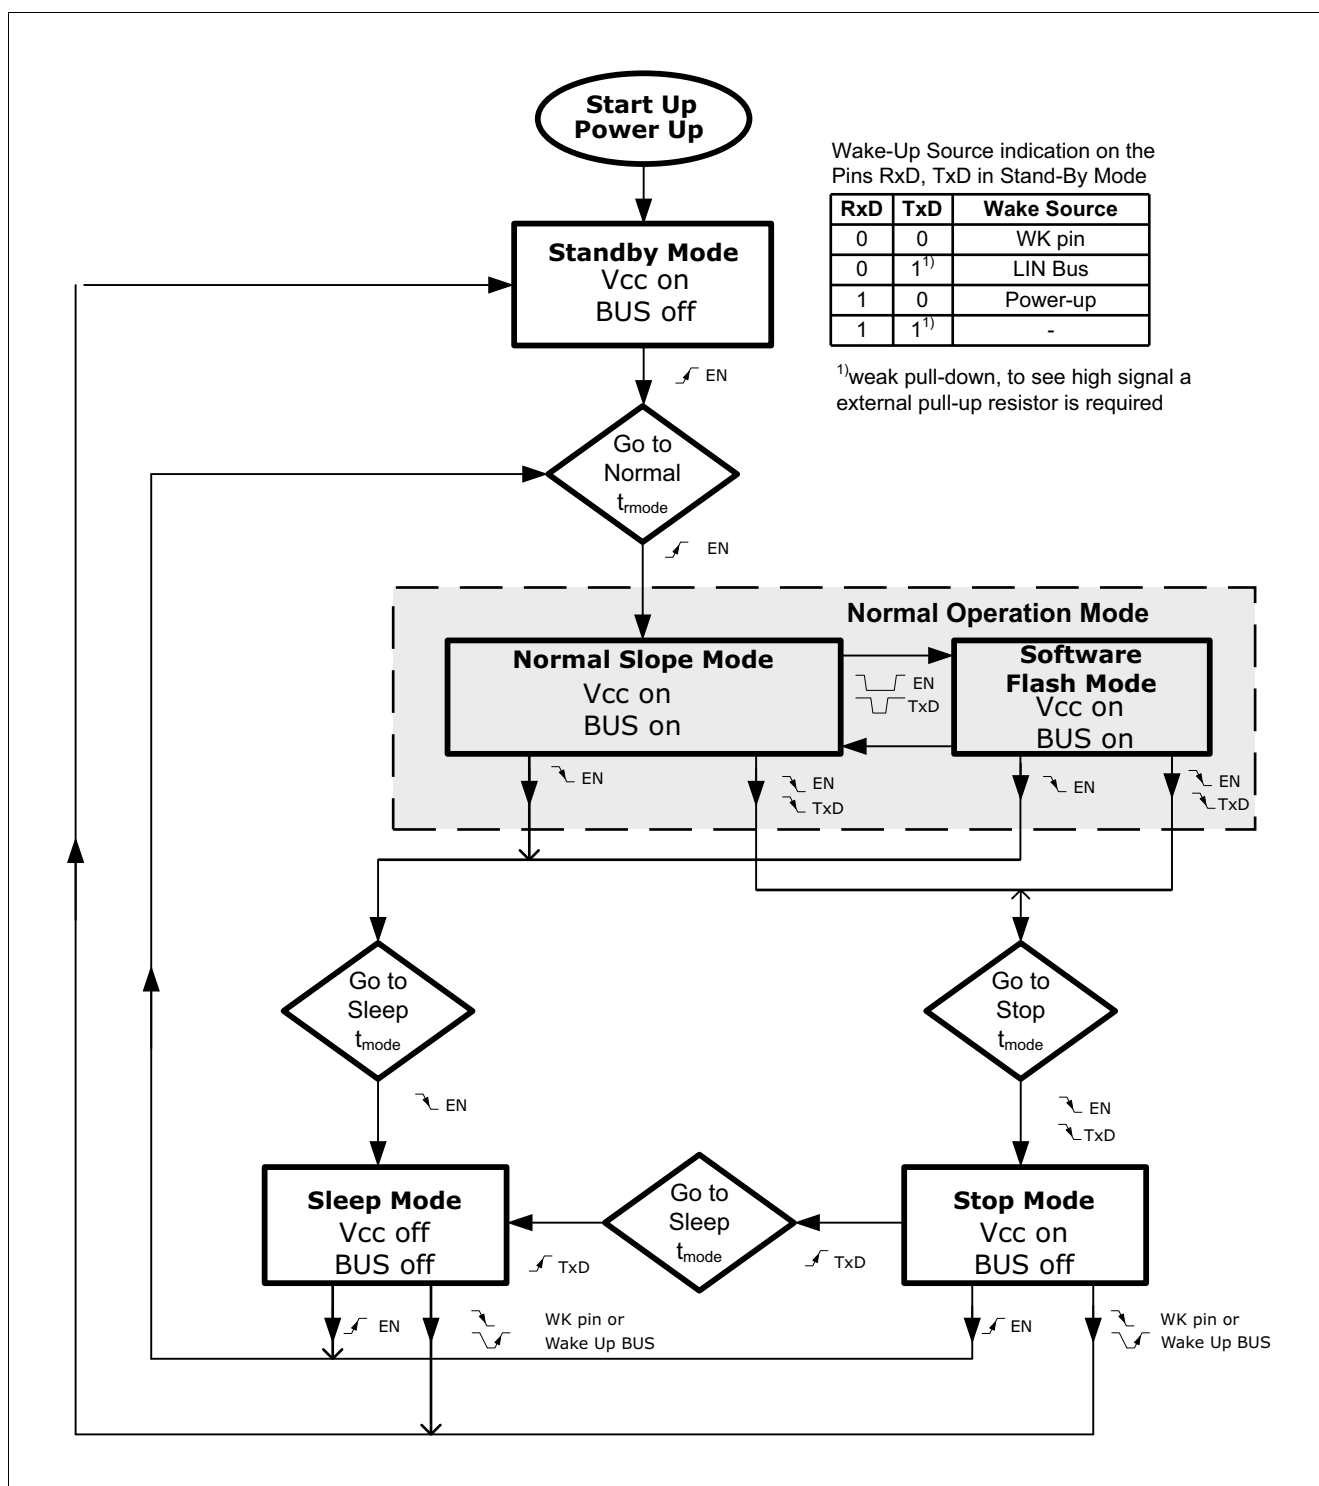

Figure 3 Operation Mode State Diagram
The Normal Operation mode contains 2 sub-operation modes, which differentiate by the slew rate control of the LIN Bus signal (see Figure 3).
- The EN input pin is active. By setting the EN pin to HIGH the TLE8458 changes the operation mode to Normal Operation Mode (see Figure 3).
The Software Flash Mode can only be entered from Normal Slope Mode (see Figure 3). By setting the EN pin to low for the time  $t_{\text{fl1}}$  and by generating a falling and a rising edge at the TxD pin with the time  $t_{\text{fl2}}$  and  $t_{\text{fl3}}$  during the low phase of the EN pin, the TLE8458 changes to the Software Flash Mode (see Figure 5). Vice versa, the TLE8458 changes from Software Flash Mode to Normal Slope Mode by applying the same sequence to the EN pin and the TxD pin.